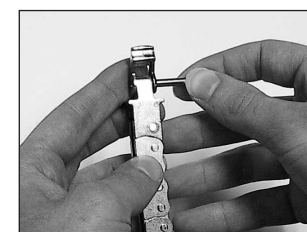

Fig. 6
7. Fasten chain holder for tilt sash (C) to the frame with suitable screws.
8. Connect the locking piece with the chain end by inserting the connecting pin Ø4x32 through both parts. (Fig. 6).